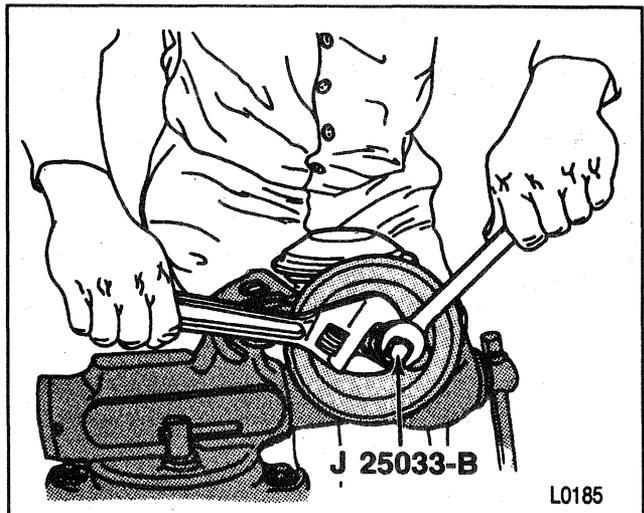

Figure 6—Installing Pulley
⊠ Assemble (Figure 6)
1. Pulley to the pump using J 25033-B until the pulley is flush with the end of the shaft (Figure 6).